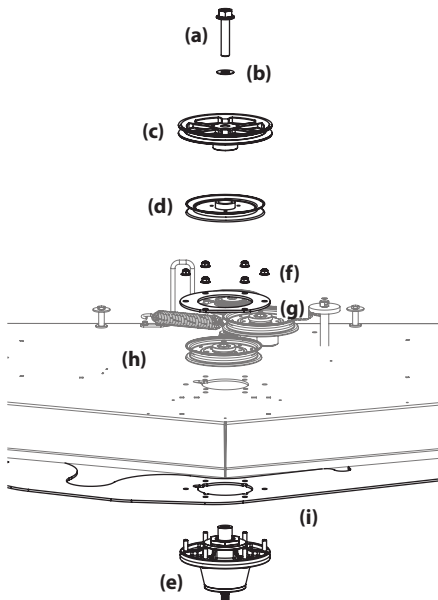

Figure 4-27
- Remove the hex flange bolt (a) and flat washer (b) securing the drive pulley (c) and center spindle pulley (d) to the spindle assembly (e). See Figure 4-27.
- Remove the six (6) flange lock nuts (f) securing the center (d), spindle assembly (e) and the support plates (g) to the deck shell (h). See Figure 4-27.